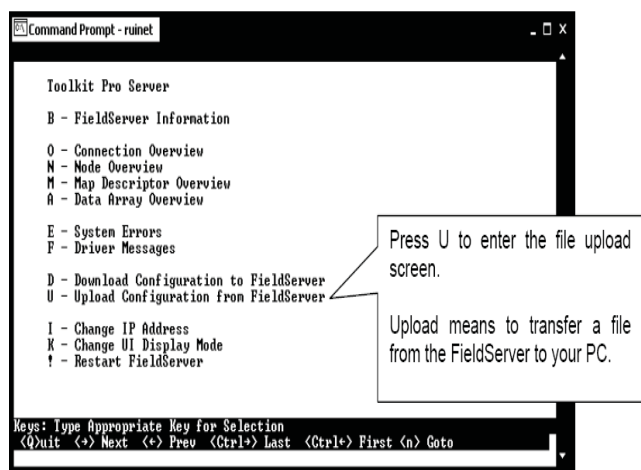
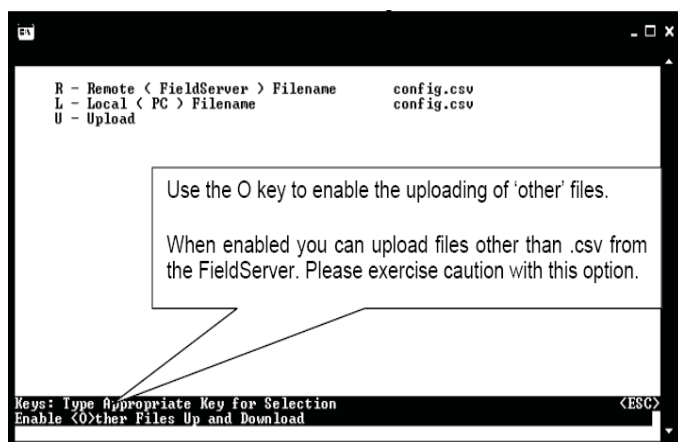

Figure 12: RUINET PT-Link II Main Menu - Upload
Figure 13: RUINET PT-Link II Upload
NOTE: The PT-Link II contains an external interface file otherwise called an XIF file (fserver.xif). The XIF file includes information such as SNVT names and LON network information. This file can be uploaded for use with LON programming software. When uploaded, these files can be located in the same directory that the RUINET executable file is stored and run from. Be sure when uploading that the correct file is specified in the upload window. Refer to **Figures 12 & 13 on page 25** for screen details. Refer to Appendix B for details on uploading XIF files.
7.) Type the letter  to upload the Config file (**Figure 12**), then type  again (**Figure 13**) for Upload.